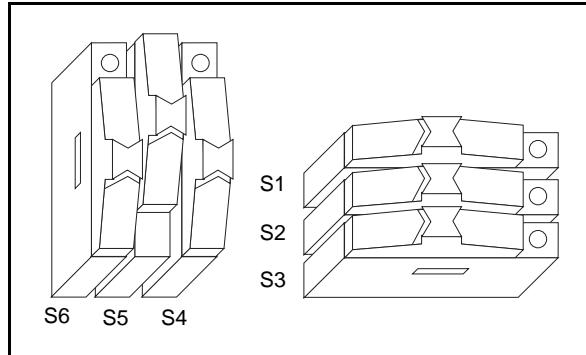

Figure 2. Single-Ended Temperature Sensor Switch Configuration
- For single-ended operation, connect the analog channel 0 to the temperature sensor by switching S5 to the up position, as shown in Figure 2. The signal is referenced to analog input ground (AIGND).